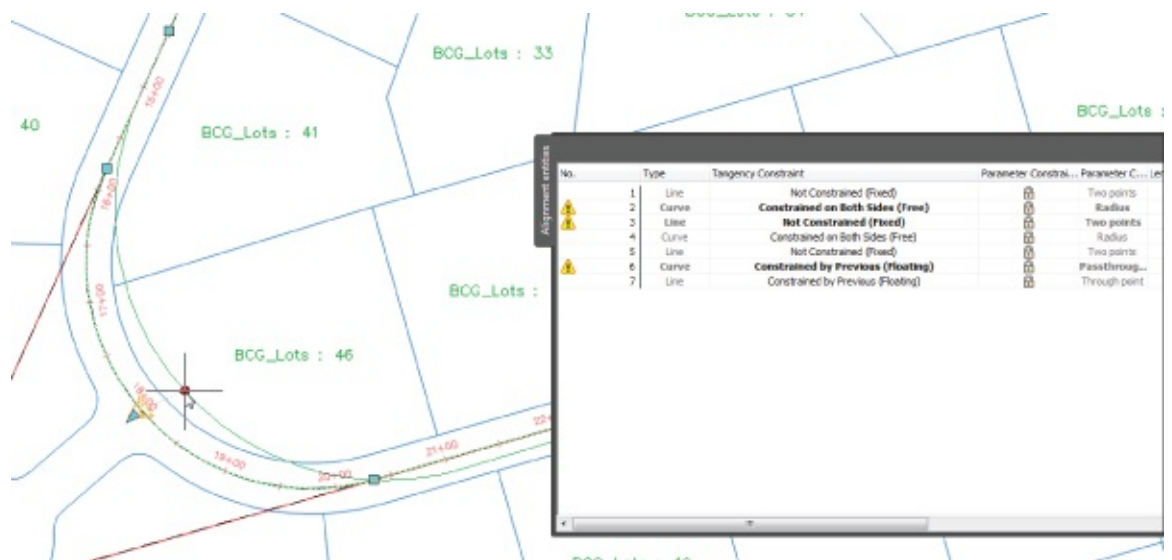

Figure 6.35 Gripping on an alignment with the tangent before the curve set to Not Constrained (Fixed) and the curve using Constrained By Previous (Floating)
9. Grip-edit the curve again using the same midpoint grip and notice how the curve changes its radius but the first line maintains its bearing, while the following segment since it is floating adjusts to the new radius (Figure 6.35).